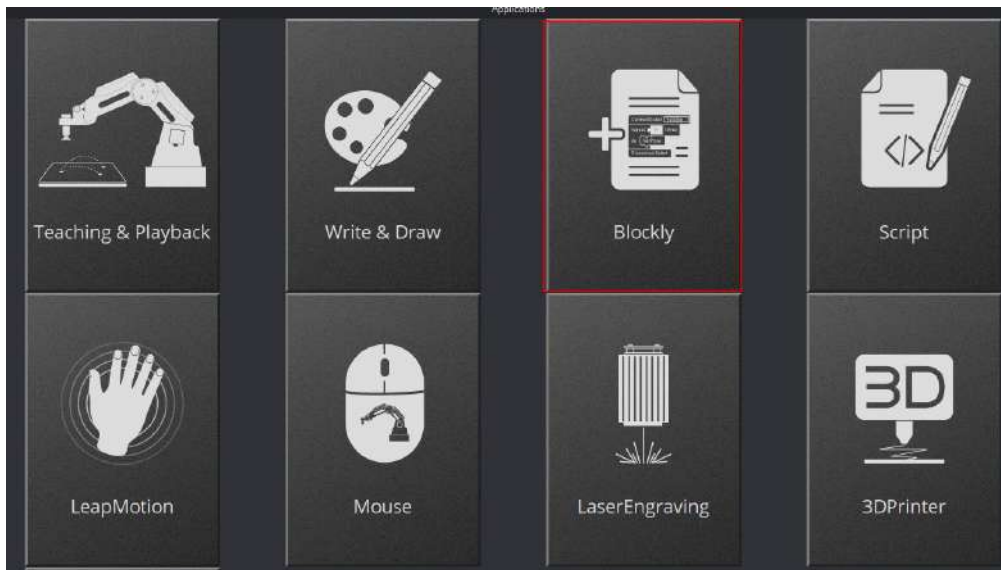
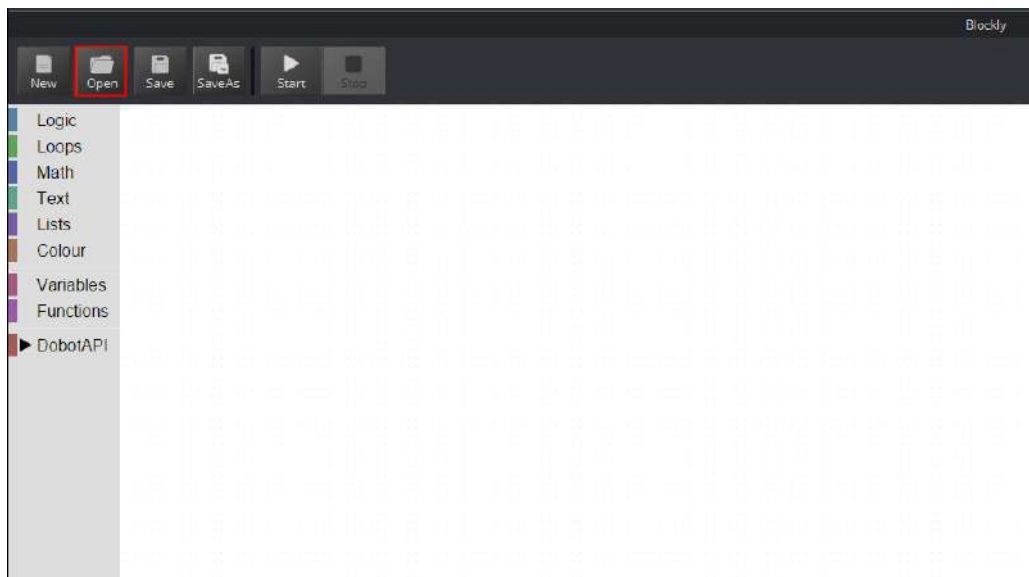

Figure 3.4 Open Blockly module
Figure 3.5 Import demo
**Step 2.** Launch two DobotStudio clients, and open **Blockly** module and import the picking demo and the sorting demo respectively. As shown in Figure 3.4 and Figure 3.5.